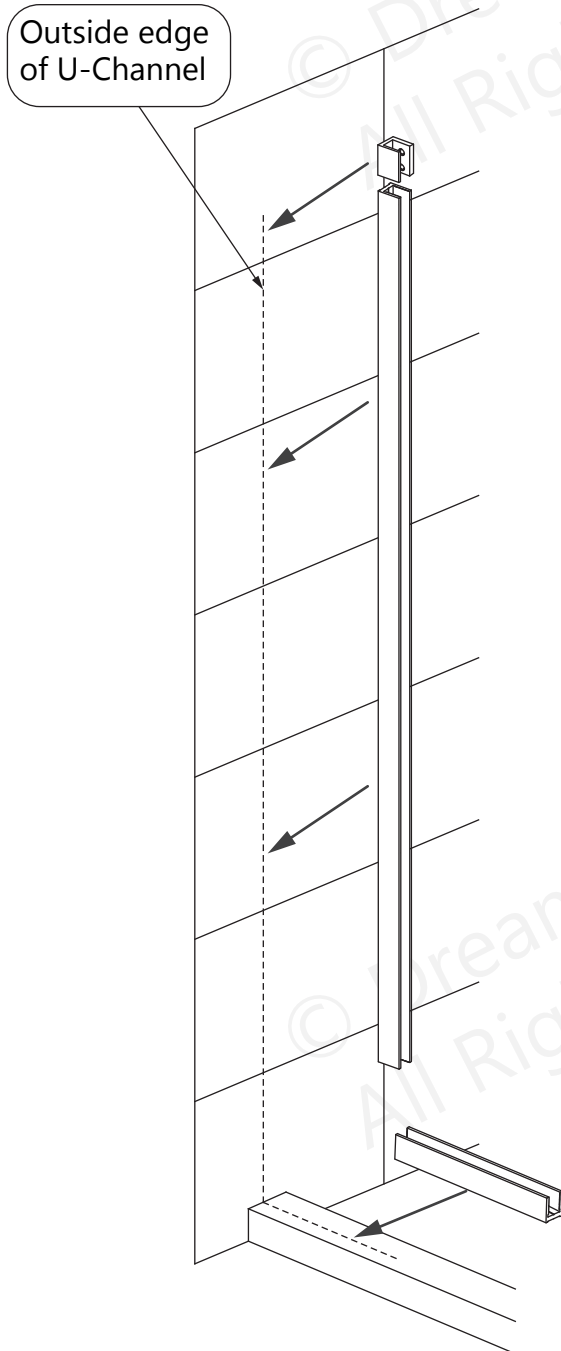

Fig 3
3. Position the U-channels and **Hinge Panel Glass Bracket (#36)** on the wall and threshold to mark the holes for drilling. **(Fig 3)**